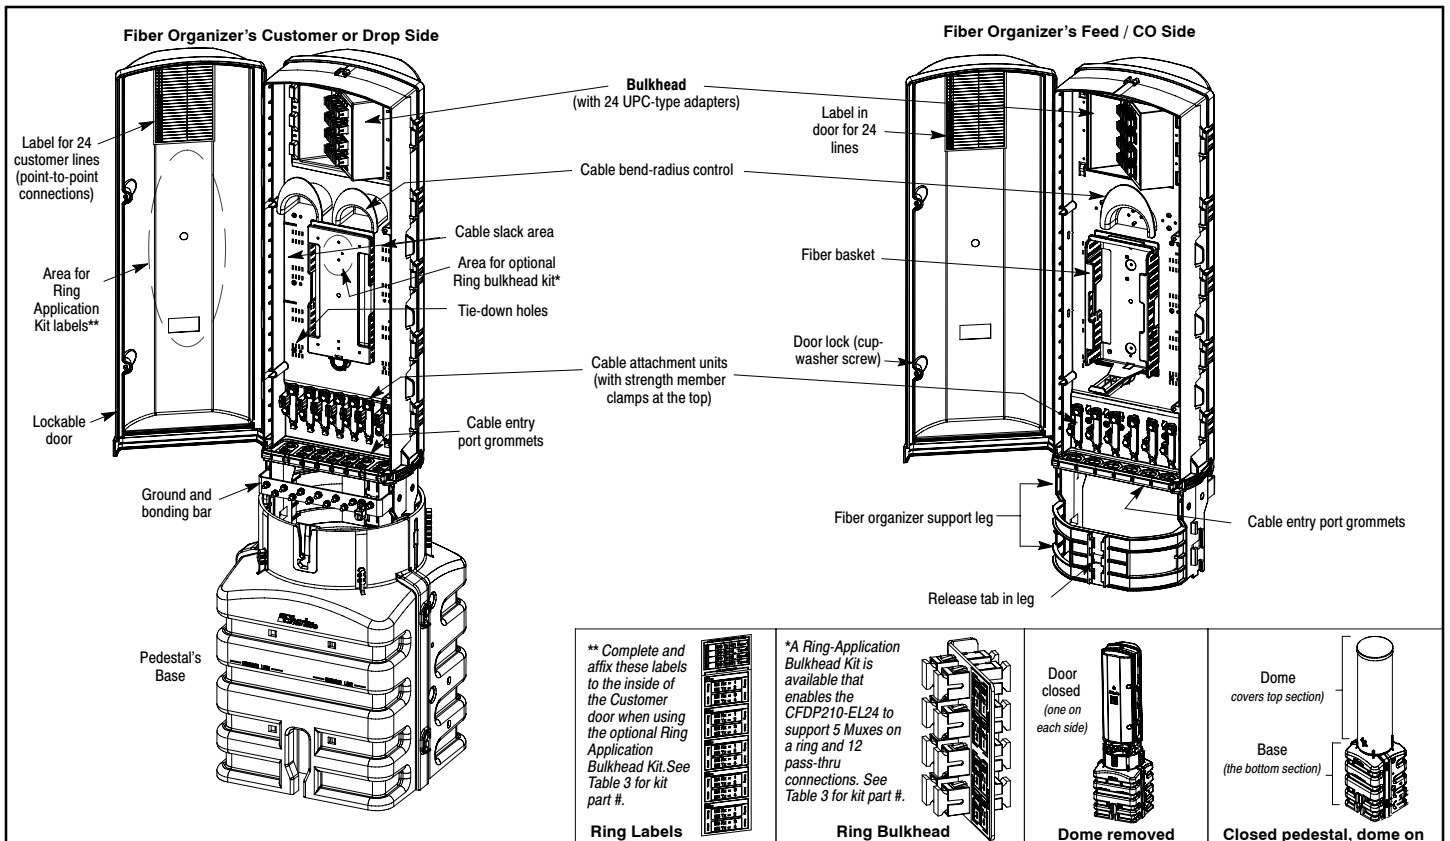

Figure 1. Interior Views of the CFDP210-EL24
**1.1 Document Purpose.** This document provides instructions for the fiber cable technician to properly perform fiber cable preparations, routings, splicing, terminations and connections within a Charles Industries' Fiber Distribution Point (CFDP2) EL24 Pedlock® pedestal with a 10" dome. This model, shown in Figure 1, offers an interior fiber organizer for use in point-to-point applications where preconnectorized SC/UPC connections are desired, such as at cell sites to service multiple wireless operators. Call Charles Industries (see Part 3) to request more information or literature on this or other models.
| 9.  | <p> <input type="checkbox"/> Attach fiber organizer. (Skip this step if the fiber organizer is already installed.) First, position the feed cable so it will be at the CO or feed side of the fiber organizer (see Figure 1). Then install the fiber organizer to facilitate marking the cable for the proper cable sheath removal length. Align the fiber organizer legs with the leg guides in the collar of the base. Once aligned, press down on the fiber organizer until the tab locks are engaged (audible clicks indicate proper leg insertion).                 </p>    |